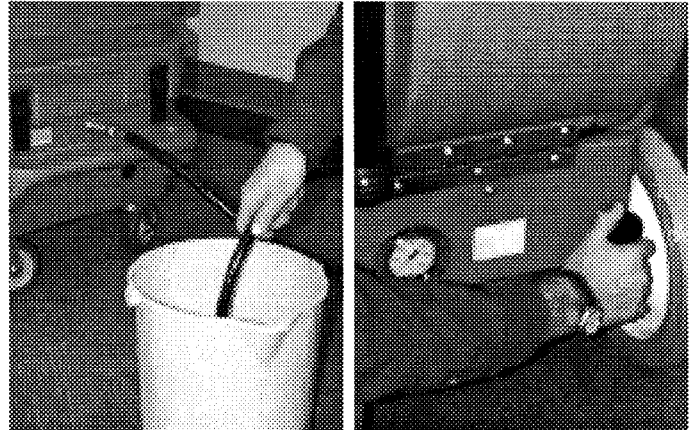

Fig. 3
- c. Turn "PUMP" switch on and let pump run for a few minutes then open rear pressure adjust knob completely (Figure 3).